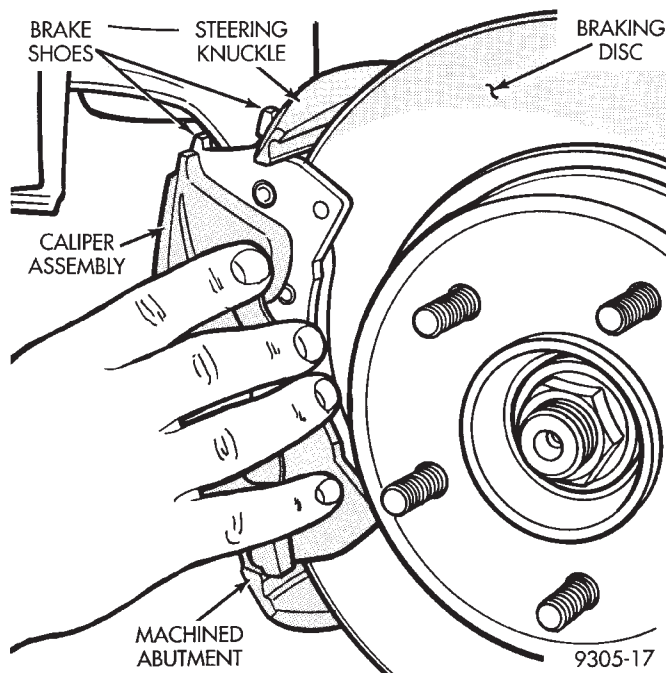

Fig. 43 Removing Caliper Assembly
(4) Remove caliper assembly from steering knuckle. Proceed by first rotating top of caliper away from steering knuckle and then lifting caliper off bottom machined abutment on steering knuckle (Fig. 43).
(3) Carefully position caliper and brake shoe assemblies over rotor using the reversed required removal procedure (Fig. 43).